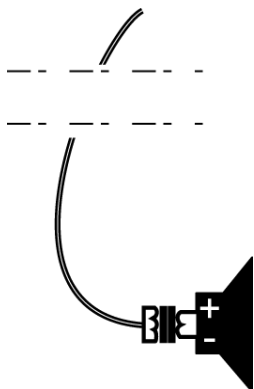

Figure 24 Schematic Diagram of the Loudspeaker and Audio Cable Connection
3. Connect the loudspeaker to the other end of the audio cable, as shown in Figure 24.